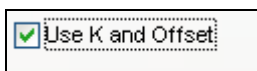

Figure 16.10.8D
Note: If you are using a flow meter that is larger than three (3) inches, or is not predefined you will have to check the **Use K and Offset** box (Figure 16.10.8D).